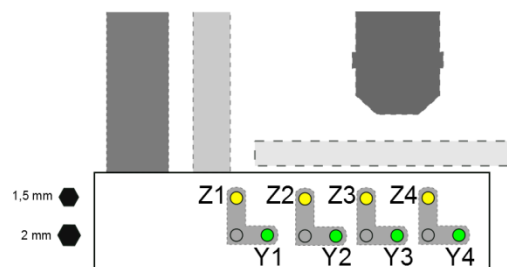

Figure 2-12: Schematic drawing of the left side of the microscope with marked positions of the usable adjustment screws.
- If the beam is not centred and directed to the pinhole, correct the beam path with the adjustment screw (Y1, Fig. 2-12 mirrored).